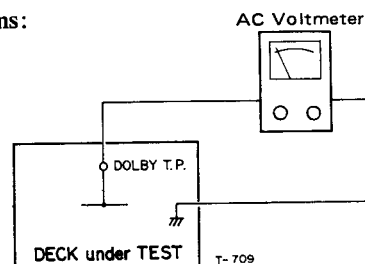

Fig. 6-4 Connection
2. Adjust R180/R280 for 580 mV (-2.5 dB) on AC Voltmeter connected to the Dolby test points. (Fig. 6-4)